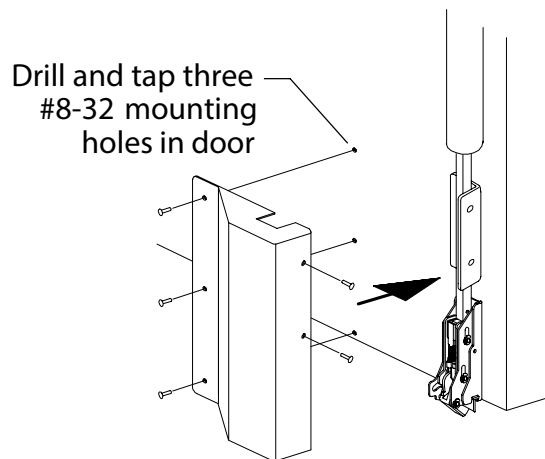

Figure 12
- 15 Drill and tap door for #8-32 screws and install latch guard with five #8-32 screws (Figure 12).